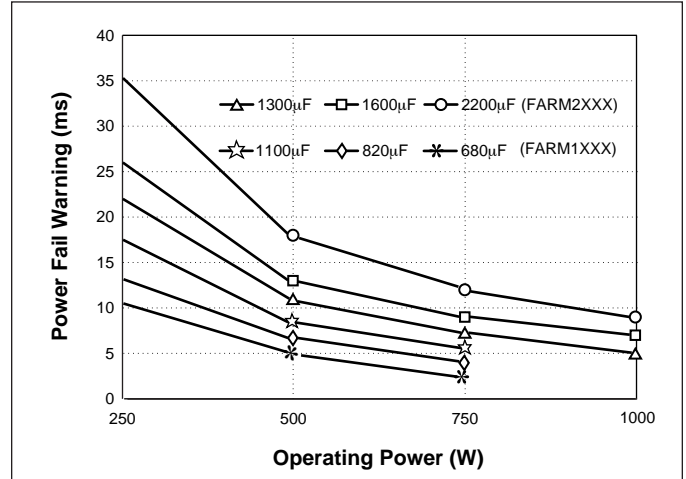

Figure 14—Hold-up time vs. operating power and total bus capacitance, series combination of C1, C2 (see Fig. 9)
Calculated values of bus capacitance for various hold-up time, ride-through time, and ripple voltage requirements are given as a function of operating power level in Figures 14, 15, and 16, respectively.
**Warning.** Figure 14 is used to determine capacitance for a given power fail warning time and power level, and shows that the total bus capacitance must be at least 820  $\mu$ F. Since two capacitors are used in series, each capacitor must be at least 1,640  $\mu$ F. Note that warning time is not dependent on line voltage. A hold-up capacitor calculator is available on the Vicor website, at vicorpower.com.